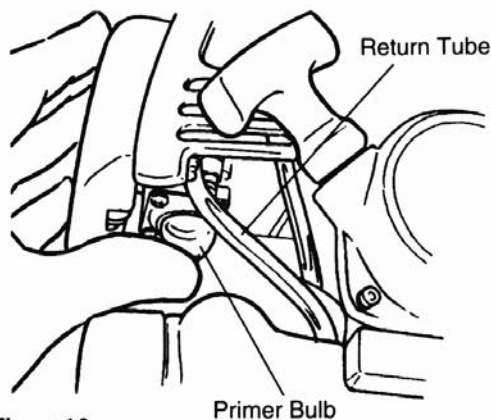

Figure 13
3. Prime the engine by depressing the carburetor primer bulb four or five times. See Figure 13. You should be able to see fuel inside the bulb.